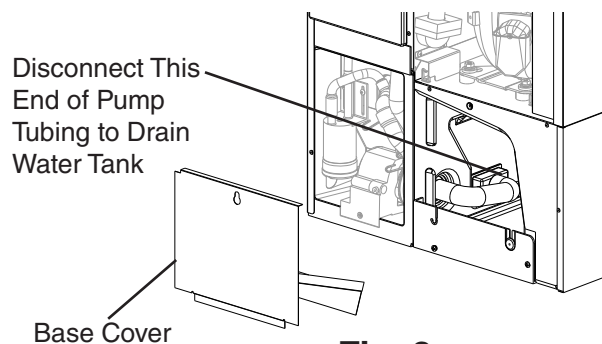

Fig. 3
- 3) Remove the base cover, then disconnect one end of the pump tubing to drain the water tank. See Fig. 3. After the water tank has drained, reconnect the pump tubing.